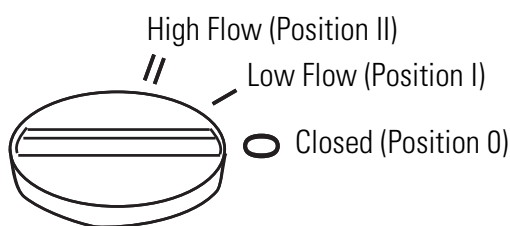

Figure 3-6. Gas ballast control positions
4. Set the gas ballast control to Closed (0), as shown in Figure 3-6.